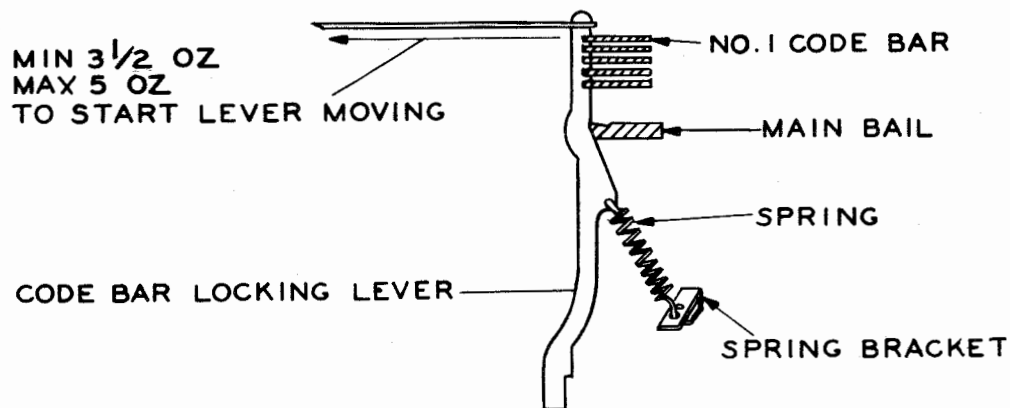

Figure 28
2.59 Codebar Locking Lever Spring tension shall be minimum 3-1/2 ounces, maximum 5 ounces measured when the main bail is in the extreme upward position. (See Figure 28.)